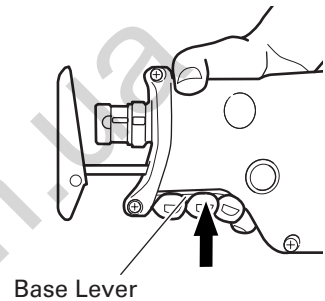

Fig. 12
- (3) You can adjust the base position in three stages. Move the base at an interval of about 15 mm, find the position where the base hooks, and press in the base lever with your fingers. The base is secured when you hear the clicking sound. (Fig. 12)